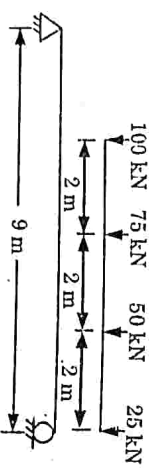

Fig. 3.
c. A train of wheel loads, shown in Fig. 3 moves over a simply supported beam of 9 m span from left to right. Making use of the influence line diagram determine the value of maximum bending moment at a section 3 m from the left support.